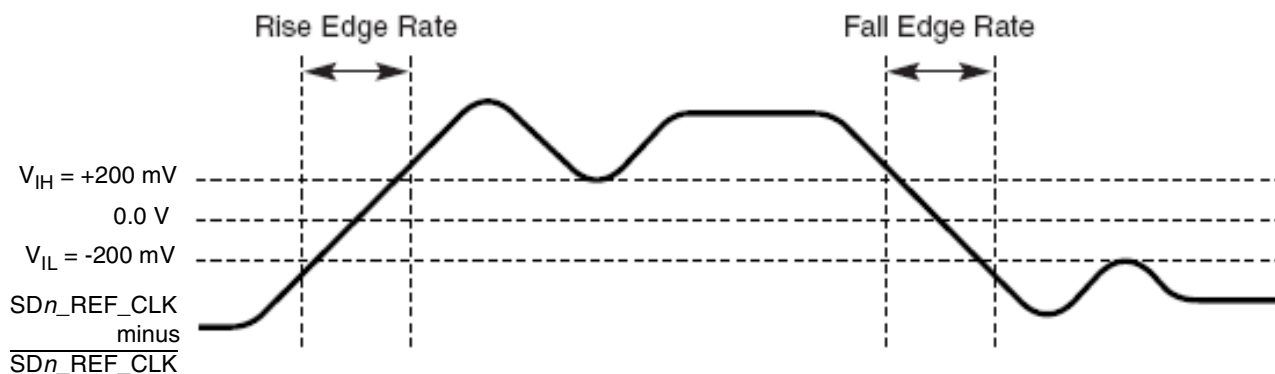

Figure 38. Differential Measurement Points for Rise and Fall Time
The differential waveform is constructed by subtracting the inverting signal ($\overline{SDn_TX}$, for example) from the noninverting signal (SDn_TX , for example) within a differential pair. There is only one signal trace curve in a differential waveform. The voltage represented in the differential waveform is not referenced to ground. Refer to Figure 38 as an example for differential waveform.
3. Measured from -200 to $+200$ mV on the differential waveform (derived from $\overline{SDn_REF_CLK}$ minus $\overline{SDn_REF_CLK}$). The signal must be monotonic through the measurement region for rise and fall time. The 400 mV measurement window is centered on the differential zero crossing. See Figure 38.